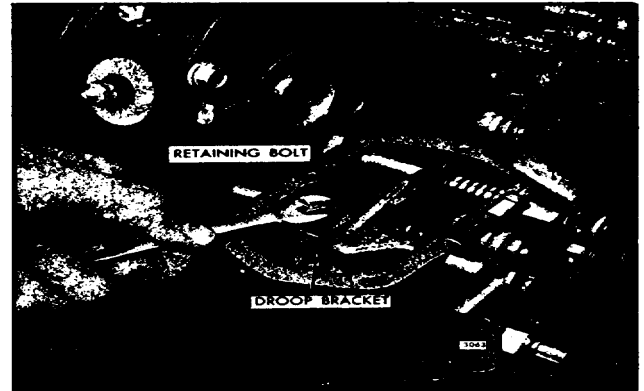

Fig. 4 · Adjusting Droop Bracket
4. Refer to Fig. 4 and loosen the droop adjusting bolt. Move the droop bracket so that the bolt is midway between the ends of the slot in the bracket. Tighten the bolt.